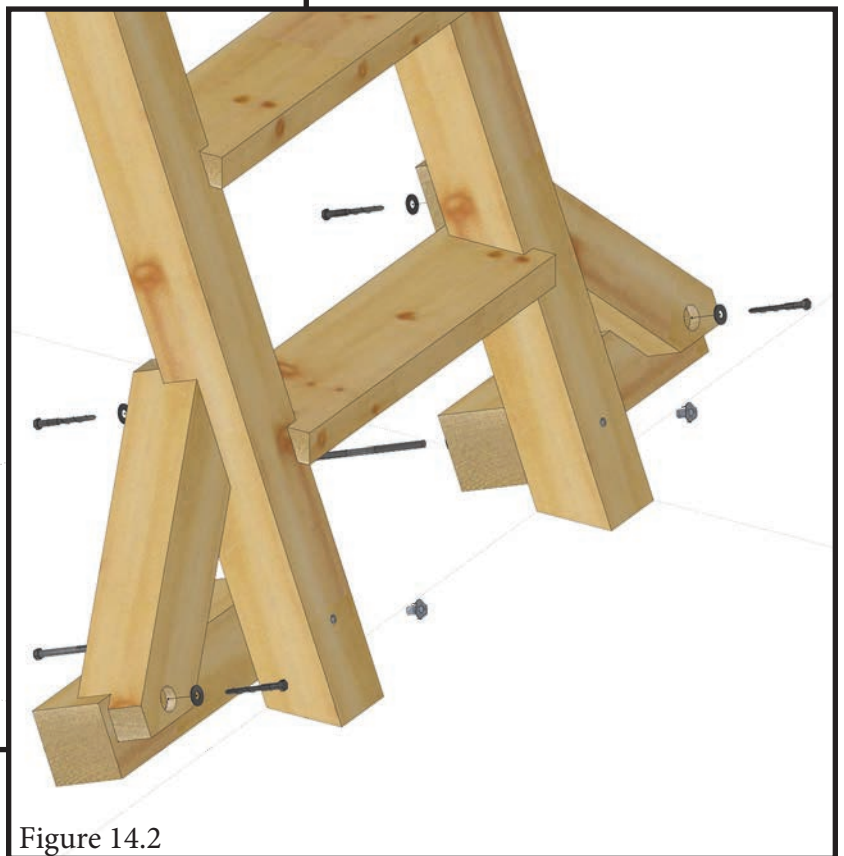

Figure 14.2
14.2 Fasten Slim Sams (2) between Ladder Runners and Bottom Runners with 5/16 x 3 Lag Bolts with 5/16 washer as shown in Figure 14.2.